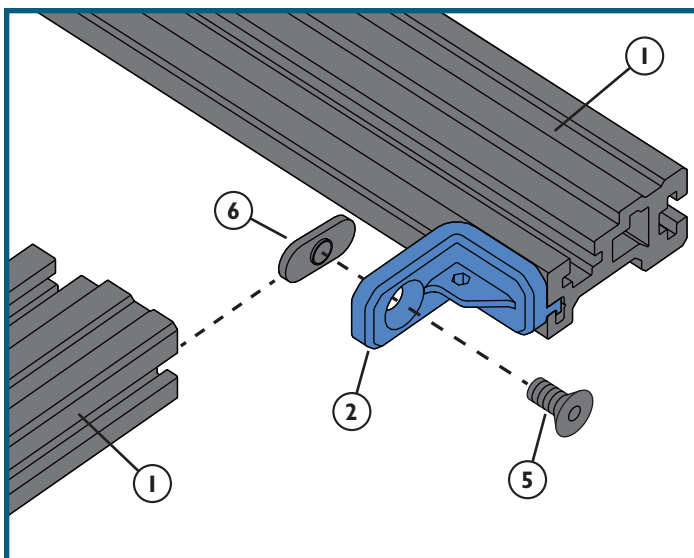

Fig. 1
1. Arrange the Rails (1) in the shape of a square on the work surface. Orient the Rails so that the faces with the wide channel are down against the surface and the narrower, S-shaped profile is toward the inside. The Rails must be oriented correctly, or you won't be able to assemble and use the jig.
2. At one corner, slide a Support Bracket (2) into the bottom slot of the S-shaped profile of the Rail (1) on your right. **Fig. 1.**
3. Slide a Washer Nut (6) into the T-slot in the outside edge of the left perpendicular Rail (1). Position that Rail tightly against the inside edge of the first Rail and attach the Support Bracket (2) to the second Rail with a Flat-Head Screw (5) secured in the Washer Nut. **Fig. 1.** Make sure that the end of the left rail is tight against the inside edge of the right rail before tightening the screw with the included Hex Key (12).
4. Repeat Steps 2 and 3 to install Support Brackets (2) in the remaining corners. Keep in mind that you'll need to work on the final two corners in tandem to bring the jig frame together. With the Support Brackets attached, you're still able to move the Rails (1) in and out because each Support Bracket slides along the groove in the inside edge of the Rail.